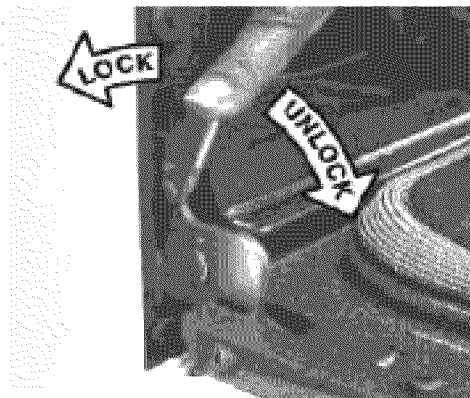

Figure 2
2. Pull the door hinge locks on both left and right door hinges down from the oven frame completely towards the oven door (See Figure 2). A tool such as a small flat-blade screwdriver may be required.
4. Push the door hinge locks up towards and into the oven frame on both left and right oven door hinges (See Figure 2) to the locked position.
3. Grab the door by the sides and pull the bottom of the door up and toward you to disengage the hinge supports. Keep pulling the bottom of the door toward you while rotating the top of the door toward the range to completely disengage the hinge levers (Figure 2).